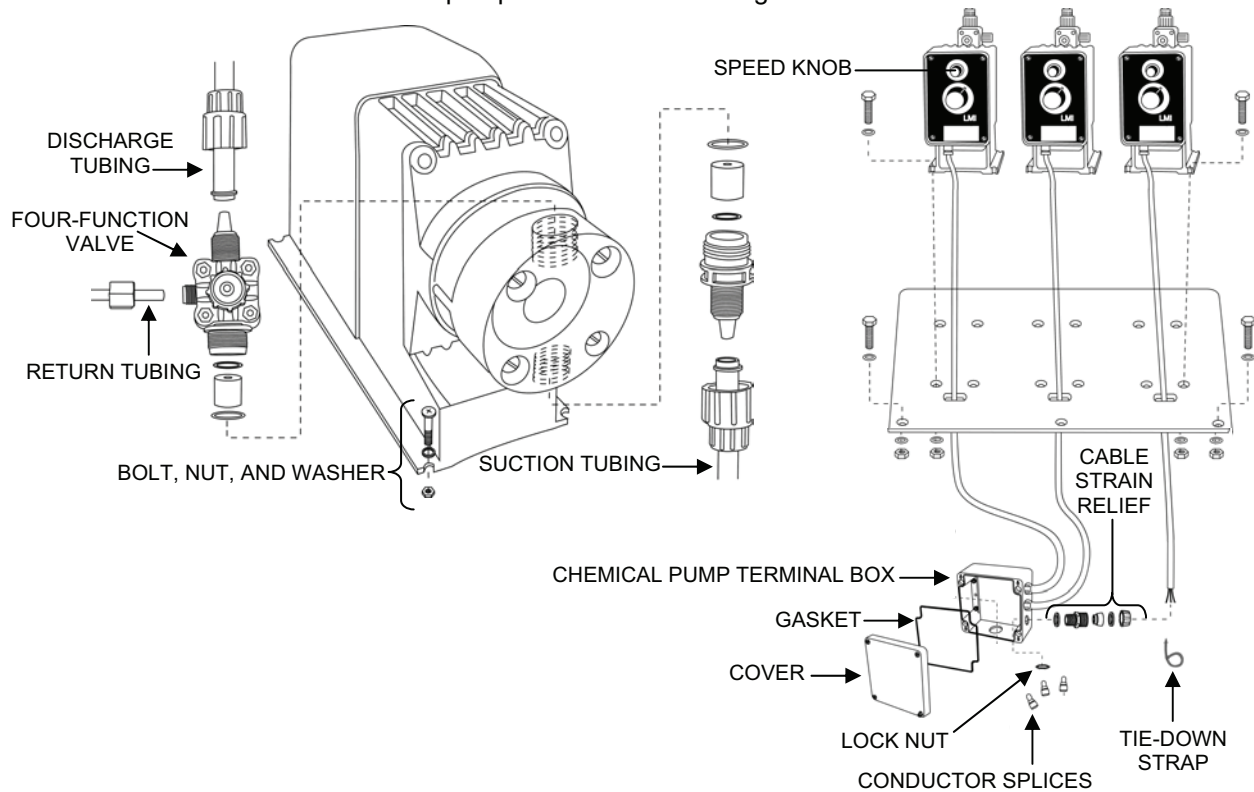

Figure 3. Chemical Pump Replacement.
3. Remove the Chemical Injection Pump from the TWPS as follows (see Figure 3):
4. Install the new chemical injection pump onto the TWPS as follows (see Figure 3):